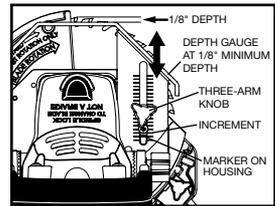

**Figure 6**
- To prevent saw kickback, the blade must be set parallel to the floor. This can be ensured by checking from the front of the saw that, on BOTH sides of the blade housing, the number of lines below the bottom edge of the blade housing are the same (Figure 5), OR by turning the saw over and making sure the bottom edge of the blade housing is completely parallel with a reference line (Figure 6).
- It may be easiest to set the saw blade flat on top of the new flooring to be fit beneath the desired undercut, and turn the height adjuster three-arm knobs clockwise until the height adjuster rests flat on the floor (Figure 6). From that point, for a snug fit with the new floor, adjust height down by one reference line (one blade thickness).